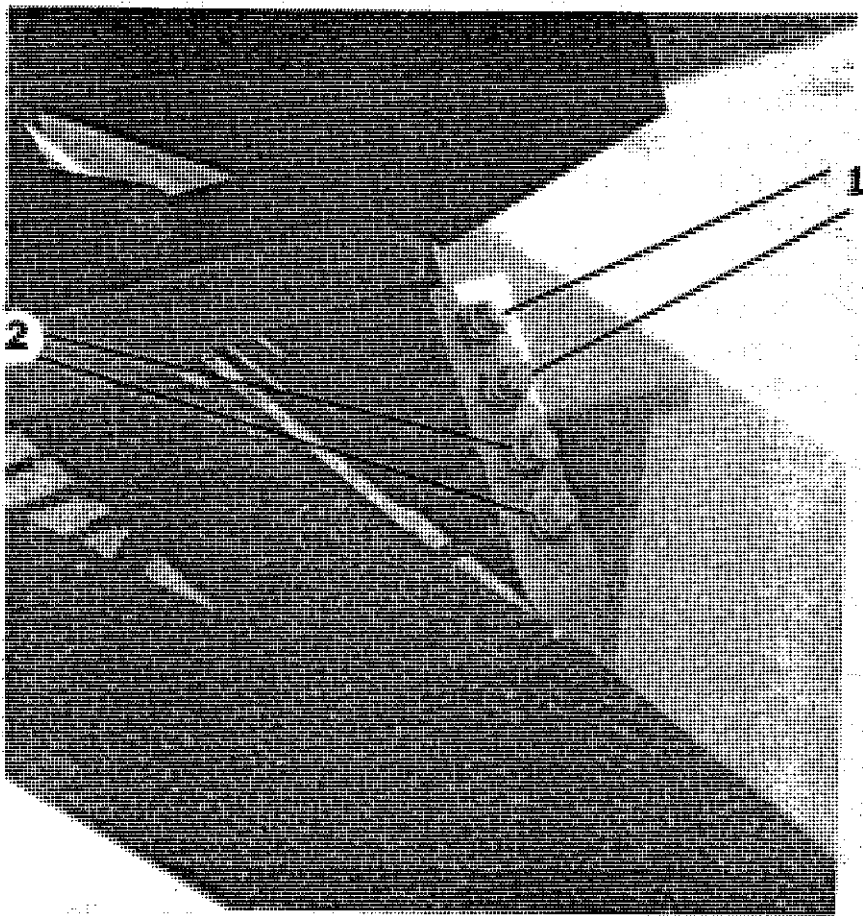
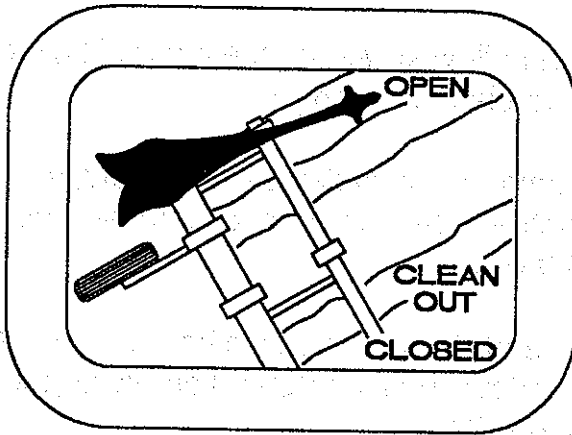

FIGURE 9: HOSE CONNECTIONS
FIGURE 10: FLOW GATE INDICATOR
5. Connect the pair of twin 1/4" hoses to the supply line bank located on inside of left A-frame tongue member (Figure 10). One set attaches to the top two JIC tapered male fittings (1) and the other set attaches to the bottom two fittings (2). See Figure 9.
3. Slowly open internal flow control gate until indicator is positioned into open range. See Figure 10.